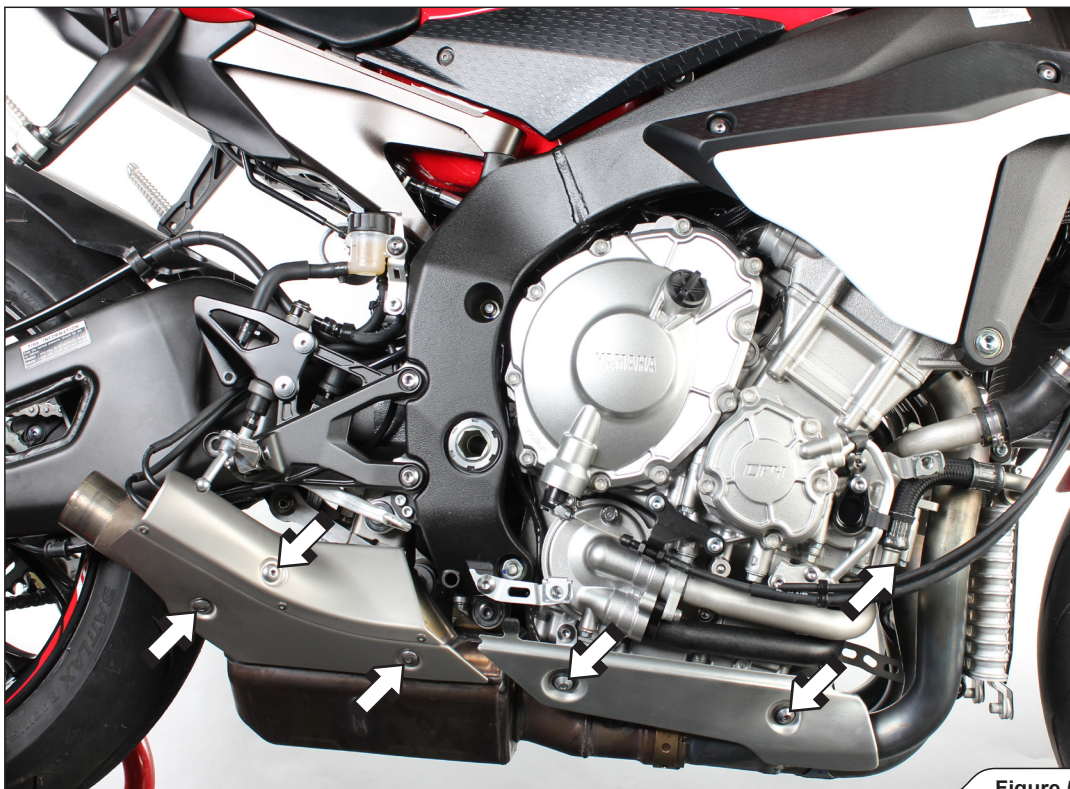

Figure 5
4. Unscrew marked bolts and remove stock heat-shields (**Figure 5**).